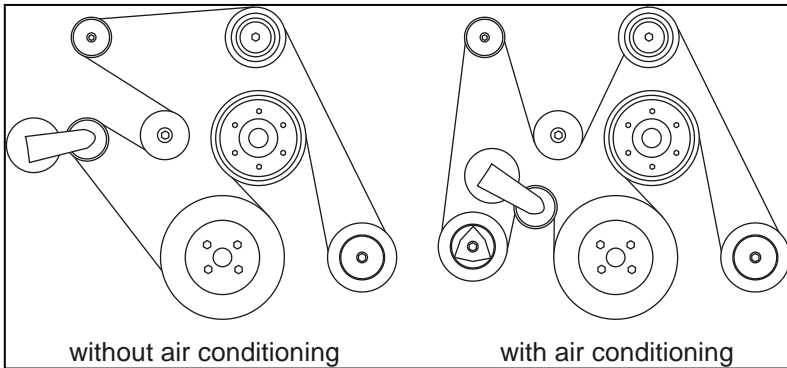

Figure 20 - OEM Belt routing
- Check the OEM belt routing diagram for the correct installation. (Figure 20)